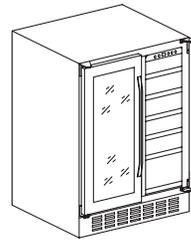

Fig:3
2. Fig:2 - Remove the door in position '1', then take out the door in position '2'. Fig:3 shows the door is taken out.